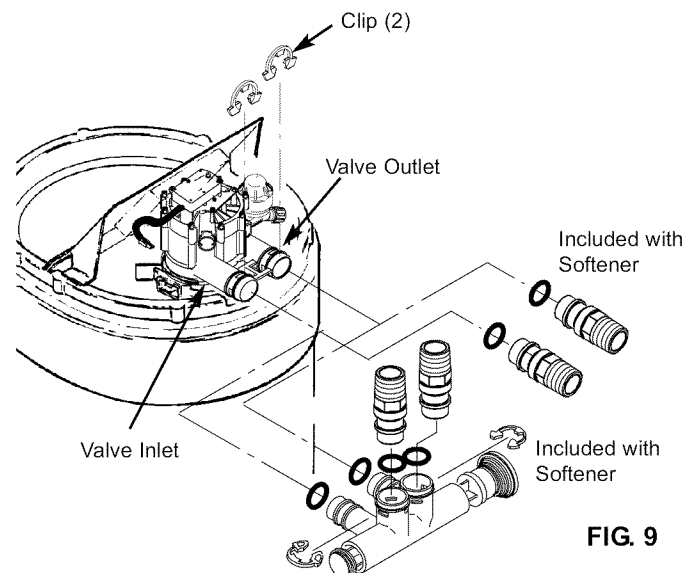
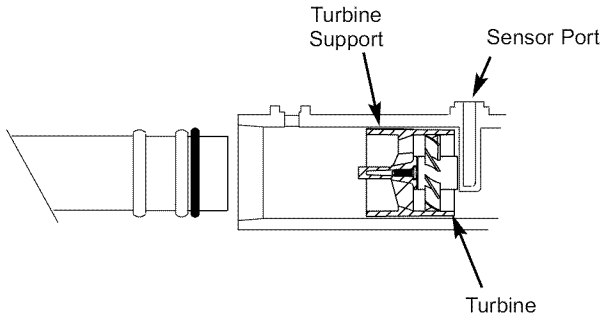

FIG. 9
FIG. 10
ALWAYS install the bypass valve (that is included with the unit) or a three valve bypass. See Fig. 9 to 13. Bypass valves let you turn off water to the softener if needed for repairs, but still have water in the house pipes.
**NOTE:** If you will not install the bypass valve because you will have a three (3) valve bypass, skip steps 6 & 7, but do steps 5 and 8.
5. Visually check and remove any foreign materials from the valve inlet and outlet ports. See Fig. 9. Carefully remove the two large plastic clips (you will use them). Check to be sure the turbine and turbine support are firmly in place. See Fig. 10.